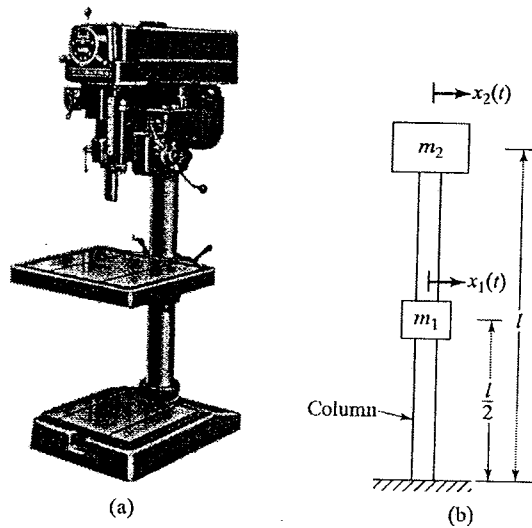

Figure Q3[a]
- Q3. [a] The drilling machine shown in Figure Q3[a] can be modeled as a two degree of freedom system as indicated in the figure. The bending stiffness of the column are given by